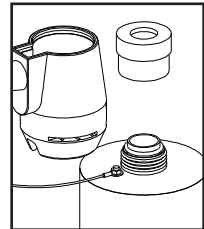

FIGURE 3B
- Re-assemble the quartz sleeve in the UV chamber allowing the sleeve to protrude an equal distance from both ends of the UV chamber (Figure 3B).